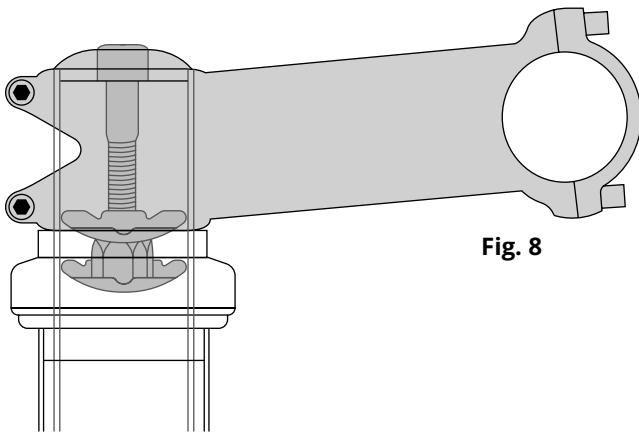

Fig. 8
If your Ebike has a “threadless” stem (FIG 8) your dealer may be able to change handlebar height by moving height adjustment spacers from below the stem to above the stem, or vice versa. Otherwise, you’ll have to get a stem of different length or rise. Consult your dealer. Do not attempt to do this yourself, as it requires special knowledge.
1. A hollow axle with a shaft ("skewer") running through it which has an adjustable tension nut on one end and an over-center cam on the other (cam action system, fig.8 a & b)